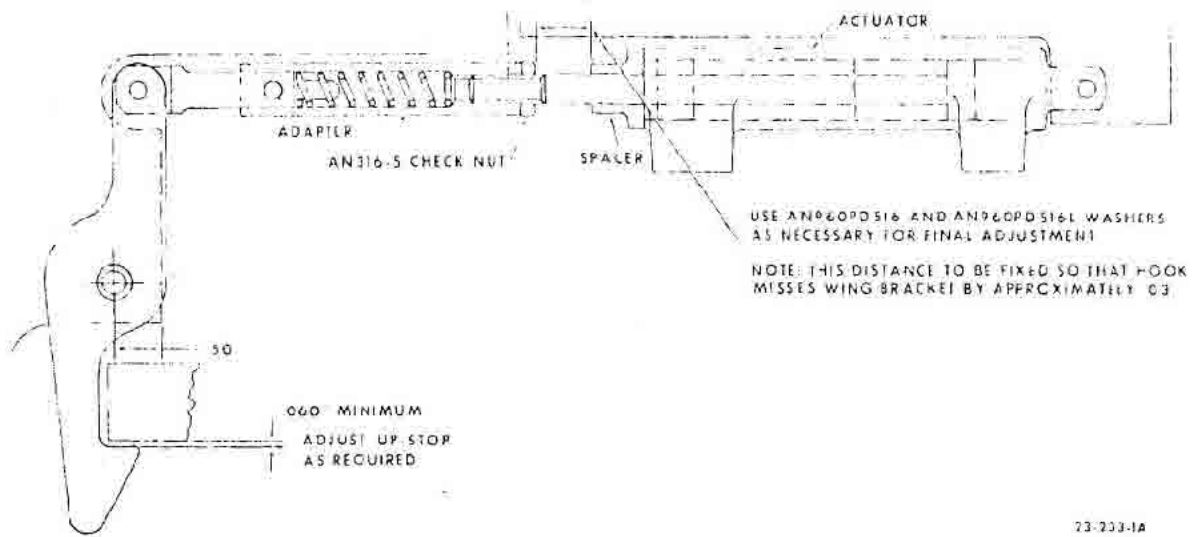

Figure 3-28. Main Gear Uplock
s. With the gear in the down position and electrical power shut off, raise the main gear and check for a minimum of .080 inch clearance between the uplock hook and the fork. In the extended position the uplock hook should clear the support bracket .03 inch. See Figure 3-28.